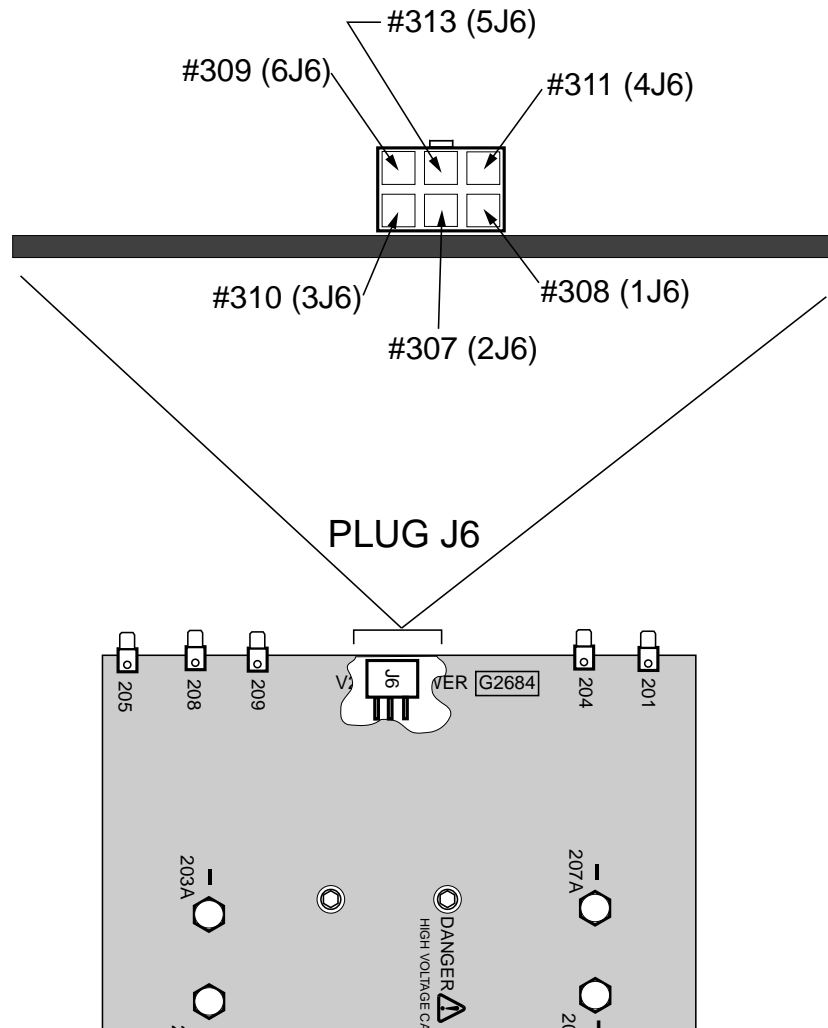

Figure F.8 Plug J6 on Power Board
3. Locate and familiarize yourself with the leads and pin locations in plug J6 on the power board. See Figure F.8.